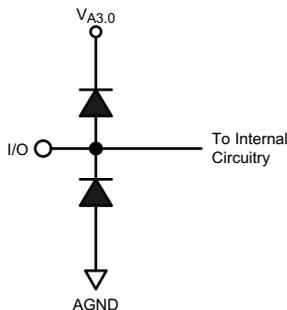

Figure 1.
- (1) The inputs are protected as shown below. Input voltage magnitudes above $V_{A3.0}$ or below GND will not damage this device, provided current is limited per Note 4 of the Absolute Maximum Ratings table. However, errors in the A/D conversion can occur if the input goes above 2.6V or below GND as described in the Operating Ratings section see Figure 1.
- (2) Typical figures are at $T_A = 25^\circ C$ and represent most likely parametric norms at the time of product characterization. The typical specifications are not ensured.
- (3) The input capacitance is the sum of the package/pin capacitance and the sample and hold circuit capacitance.
(1) The inputs are protected as shown below. Input voltage magnitudes above $V_{A3.0}$ or below GND will not damage this device, provided current is limited per Note 4 of the Absolute Maximum Ratings table. However, errors in the A/D conversion can occur if the input goes above 2.6V or below GND as described in the Operating Ratings section see Figure 1.
(2) This parameter is specified in units of dBFS – indicating the equivalent value that would be attained with a full-scale input signal.
- The inputs are protected as shown below. Input voltage magnitudes above $V_{A3.0}$ or below GND will not damage this device, provided current is limited per Note 4 of the Absolute Maximum Ratings table. However, errors in the A/D conversion can occur if the input goes above 2.6V or below GND as described in the Operating Ratings section see Figure 1.
- (2) This parameter is a function of the CLK frequency - increasing directly as the frequency is lowered. At frequencies less than 130 MHz, use the following formulae to calculate the setup and hold times: